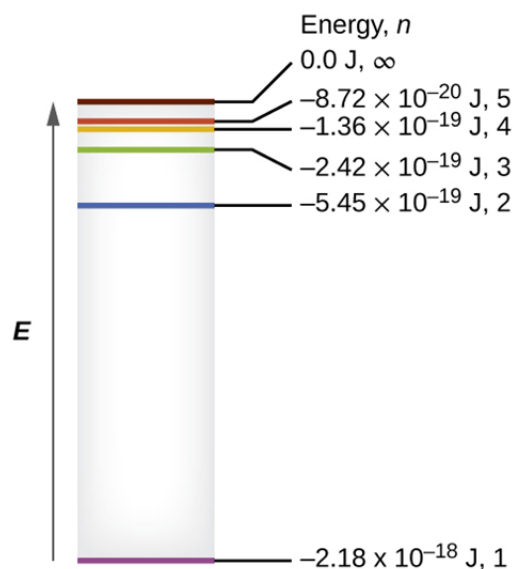

Figure 3.3.1: Hydrogen atom energy level diagram.
3. Consider the energy level diagram of the hydrogen atom according to the Bohr model (Figure 3.3.1):